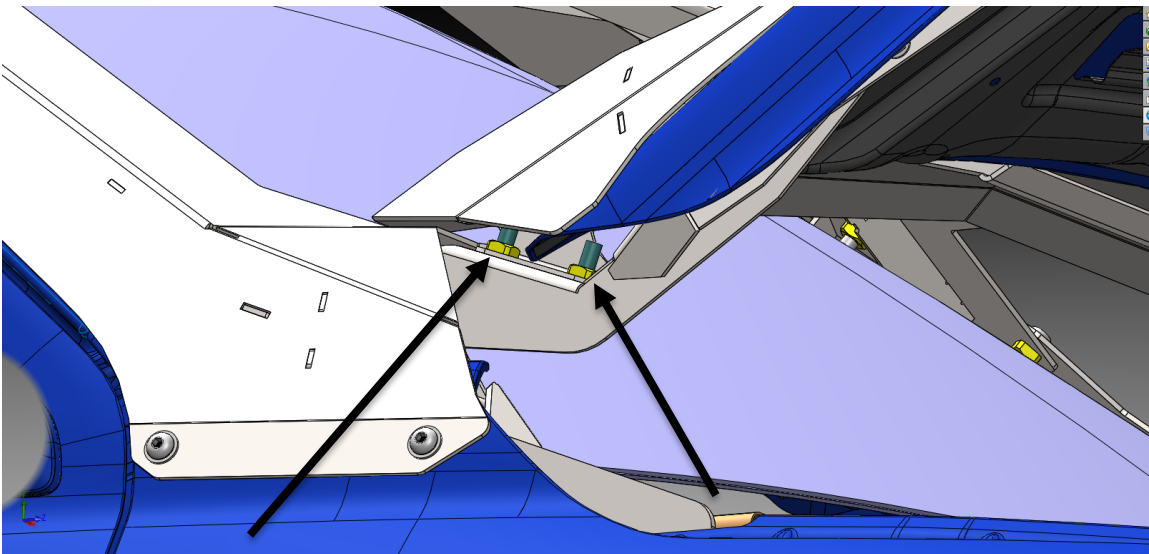

Fig 16
- q. Raise the hood slowly and hand tighten the four $\frac{3}{8}$ "-16 hex head bolts, zinc lock washers, and zinc flat washers securing the Cowl to the hood hinge brackets as shown in **Fig 16**.